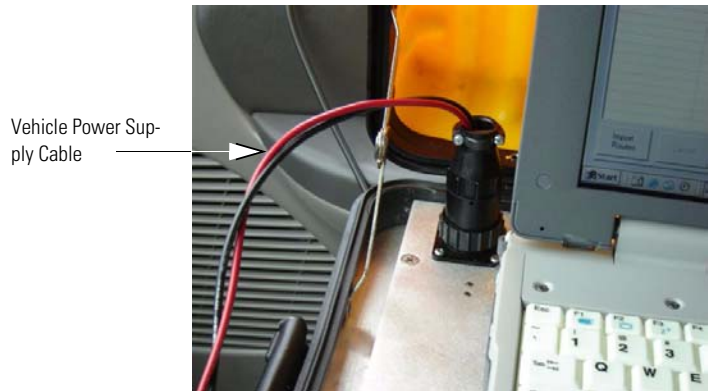

Figure 3.6 Vehicle Power Supply Power Cable
- 2 Insert the appropriate end of the vehicle power supply power cable into the connector on the MRX920 unit, as illustrated in Figure 3.6.